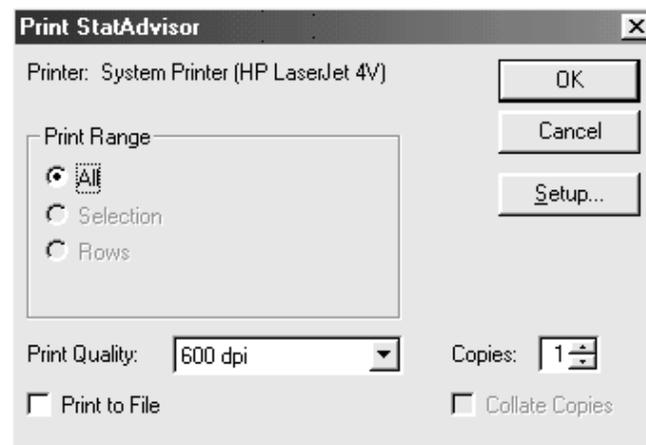

Figure 6-4. Print StatAdvisor Dialog Box
2. Choose FILE... PRINT... from the Menu bar to display the Print StatAdvisor dialog box (see Figure 6-4).